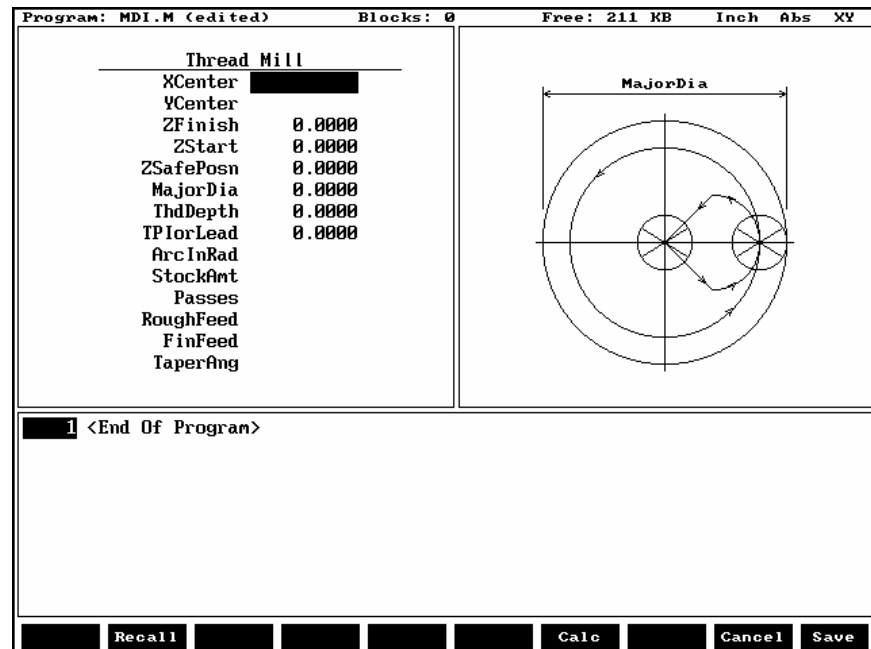

Figure 5-8, Thread Mill Graphic Menu
2. Select **Thread Mill** from the pop-up menu, and press **ENTER** to display the **Thread Mill** Graphic Menu. Refer to **Figure 5-8**.